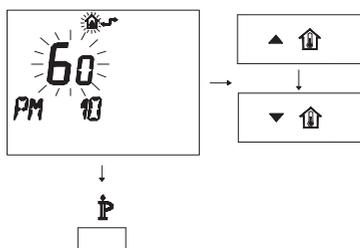

Fig. 7.38
- To modify the programmed SET, act on buttons ▲⏮ or ▼⏮ and wait for the number programmed to flash (Fig. 7.38).